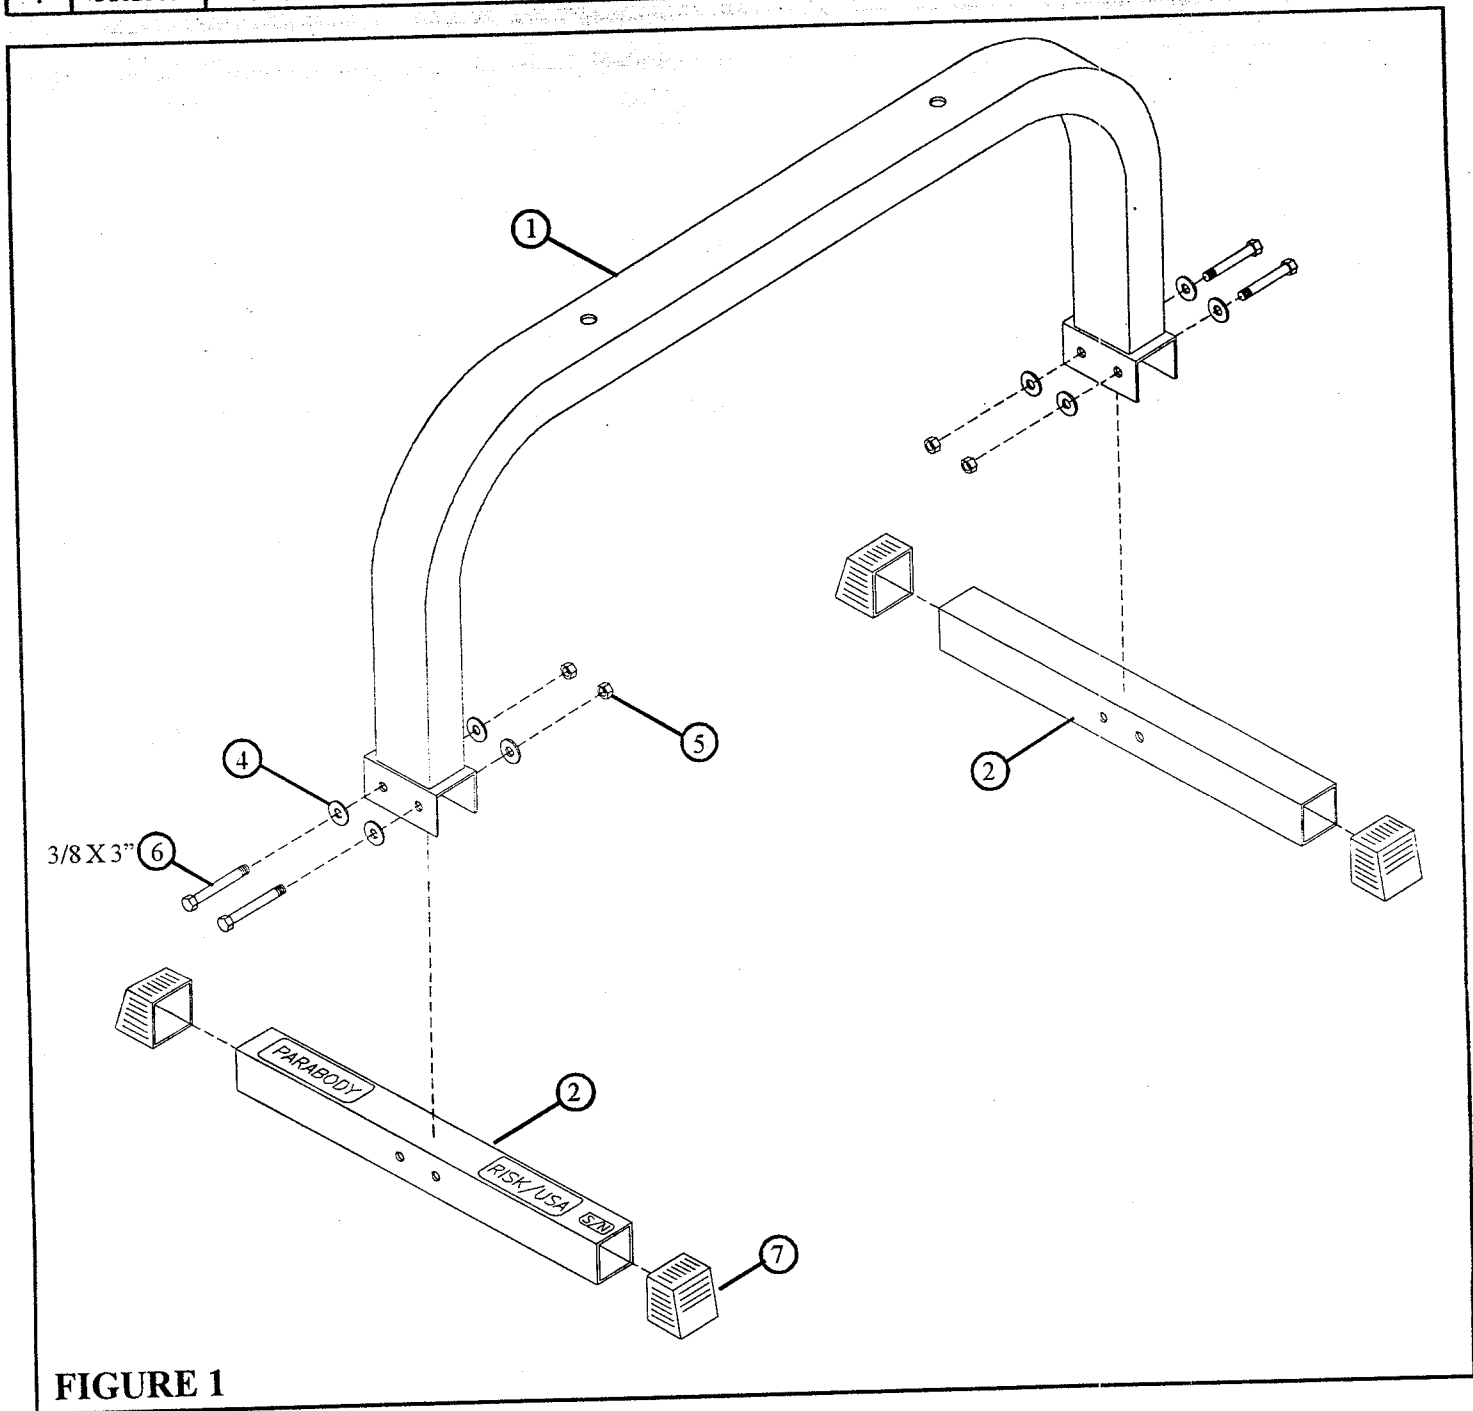

FIGURE 1
- Insert two 2" SQ. COVER CAPS (7) into the ends of the TUBE (2) as shown in FIGURE 1.
- **SECURELY** assemble the two TUBES (2) to the BENCHFRAME (1) using four 3/8 X 3" BOLTS (6), eight 3/8" WASHERS (4), and four 3/8" LOCK NUTS (5). See FIGURE 1.